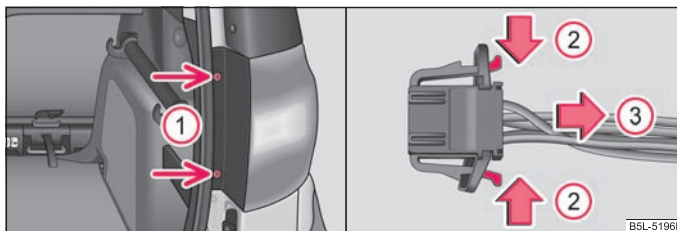

Fig. 199 Removing the rear light unit/disconnecting the plug connection
- Unscrew the light with the aid of the Torx wrench from the vehicle tool kit. The shorter side of the wrench is used for loosening the screws and the longer side for screwing the screws out completely ① ⇒ fig. 199.
- Disconnect the plug connection by pressing the catches in direction of arrow ② and by pulling them in direction of arrow ③ ⇒ fig. 199. ■
- Screw on the bulb ⇒ page 230, fig. 199 - left.